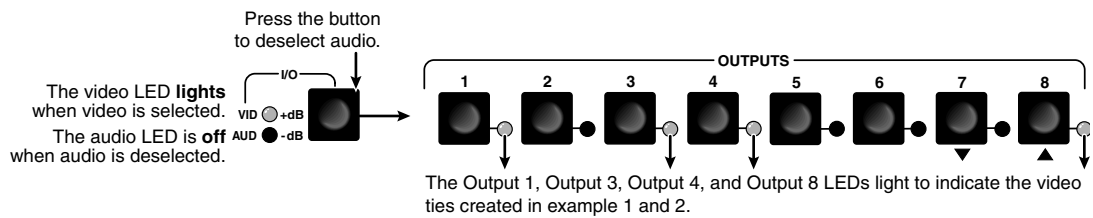

Figure 3-20 — Deselect audio to view video only
- Press and release the I/O button (figure 3-20).